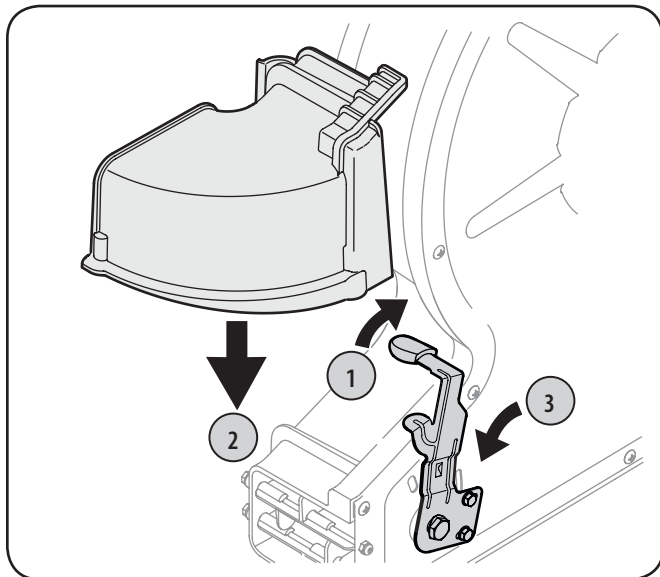

Figure 3-3
1. Pivot the blower direction lever all the way to the right, into the highest position. See Fig. 3-3.
3. Pivot the blower direction lever to the middle position to lock the chute attachment in place. See Fig. 3-3.